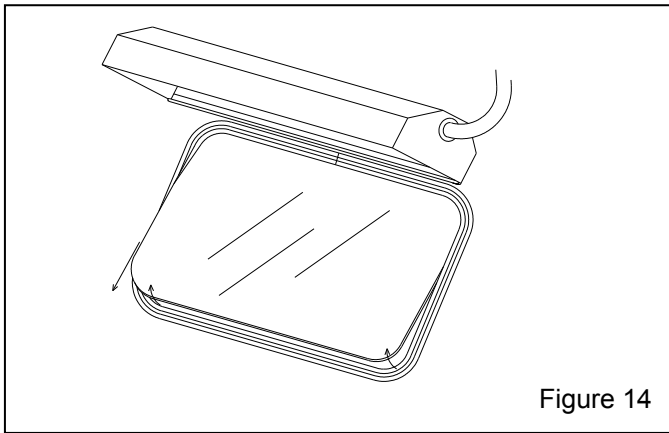

Figure 14
6.4.3 Place an arm into a glove, and push the bottom edge of the window out of the molding, as shown in Figure 14, while supporting the top of the window with the other hand.